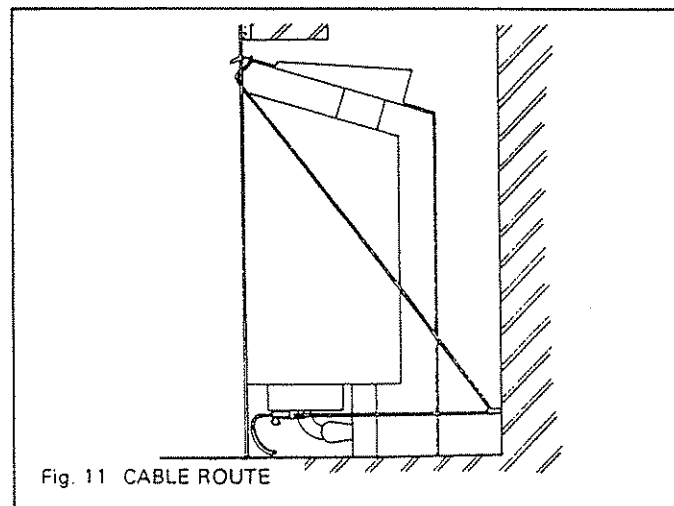

Fig. 11 CABLE ROUTE
7.1.2.5 Thread the cables through the eyebolts in the rear wall. Return the cables through the holes near the bottom of the convection box back panel and through the "V" shaped brackets near the bottom front sides of the convection box. (see fig. 11).